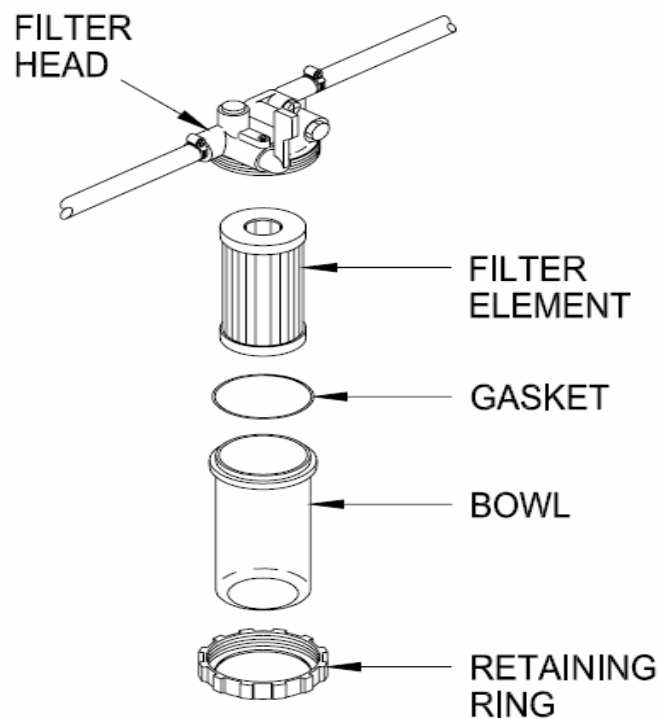

Figure 10
3. Unscrew retaining ring (Figure 10) and separate bowl and head using care not to spill diesel fuel trapped in bowl. Then pour diesel fuel into suitable container.